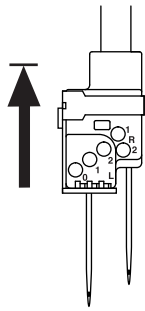

Fig.1
4. Turn handwheel toward you and bring needle bar to its highest position.(Fig.1)